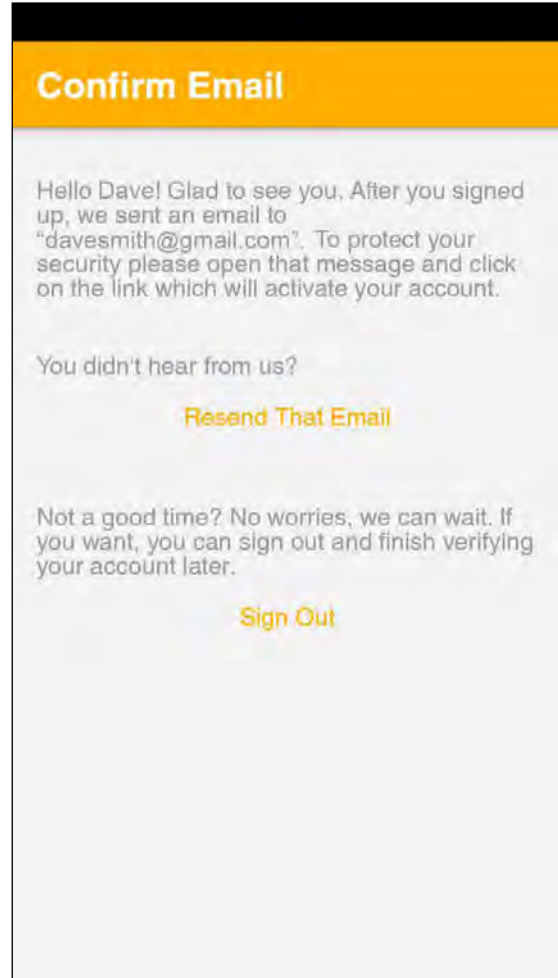

Figure 5
4. **Confirmation:** To protect the consumer’s security, an email will be sent to the consumer to confirm and activate the user account. The email message will include a link that will activate the account. See Figure 5.